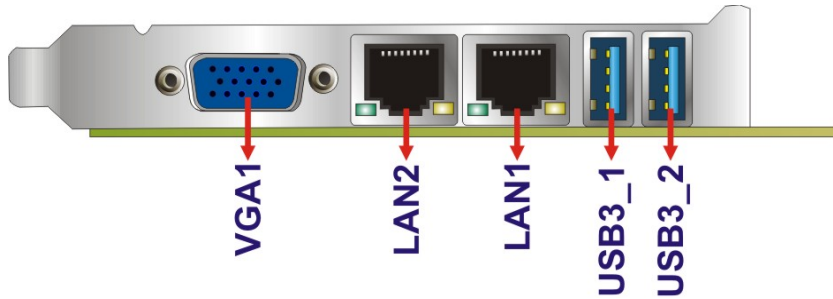

Figure 3-27: External Peripheral Interface Connector
- CN Location:** See Figure 3-27
- CN Location:** See **Figure 3-27**